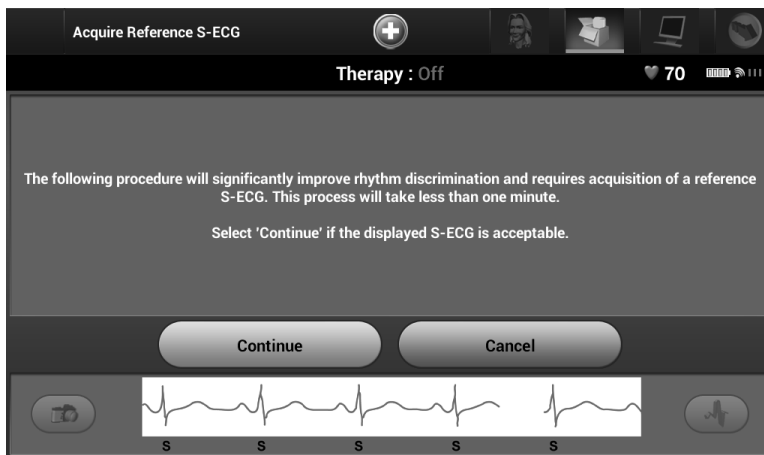

Figure 27: *Acquire Reference S-ECG screen*
8. Following the optional optimization process, the Acquire Reference S-ECG screen is displayed (Figure 27). Select the Continue button to acquire a reference S-ECG.